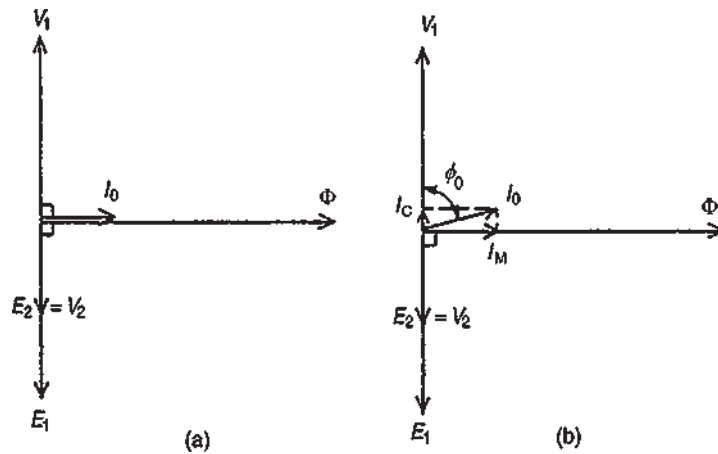

Figure 21.2
the primary winding takes a small no-load current I_0 and since, with losses neglected, the primary winding is a pure inductor, this current lags the applied voltage V_1 by 90° . In the phasor diagram assuming no losses, shown in Fig. 21.2(a), current I_0 produces the flux and is drawn in phase with the flux. The primary induced e.m.f. E_1 is in phase opposition to V_1 (by Lenz's law) and is shown 180° out of phase with V_1 and equal in magnitude. The secondary induced e.m.f. is shown for a 2:1 turns ratio transformer.
A no-load phasor diagram for a practical transformer is shown in Fig. 21.2(b). If current flows then losses will occur. When losses are considered then the no-load current I_0 is the phasor sum of two components – (i) I_M , the magnetising component, in phase with the flux, and (ii) I_C , the core loss component (supplying the hysteresis and eddy current losses). From Fig. 21.2(b):
- (c) From the right-angled triangle in Fig. 21.2(b) and using Pythagoras' theorem, $I_0^2 = I_c^2 + I_M^2$ from which, magnetising current,